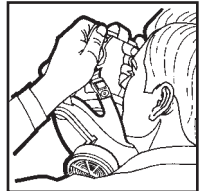

figure 2
2. Grip the facepiece between the thumb and fingers with both hands. Insert your chin into the chin cup. (see fig. 2)